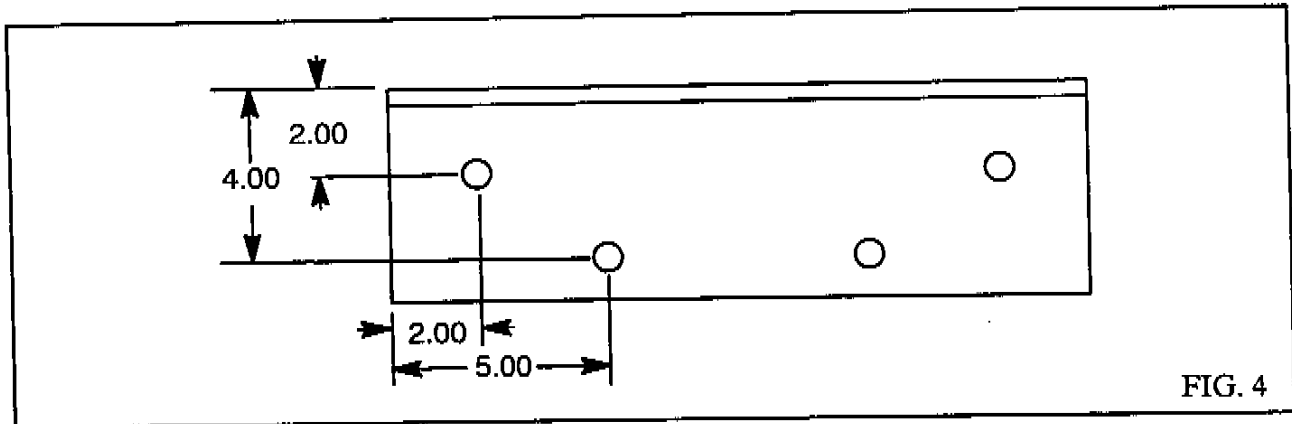

FIG. 4
Bolt the mounting angles to the truck frame using the existing holes. The mounting angles must be attached to the truck frame with a minimum of four (4) 5/8" grade 8 cap screws. If the existing holes are not evenly spread over the whole length, additional holes should be drilled, spaced approximately as shown in Fig. 4.